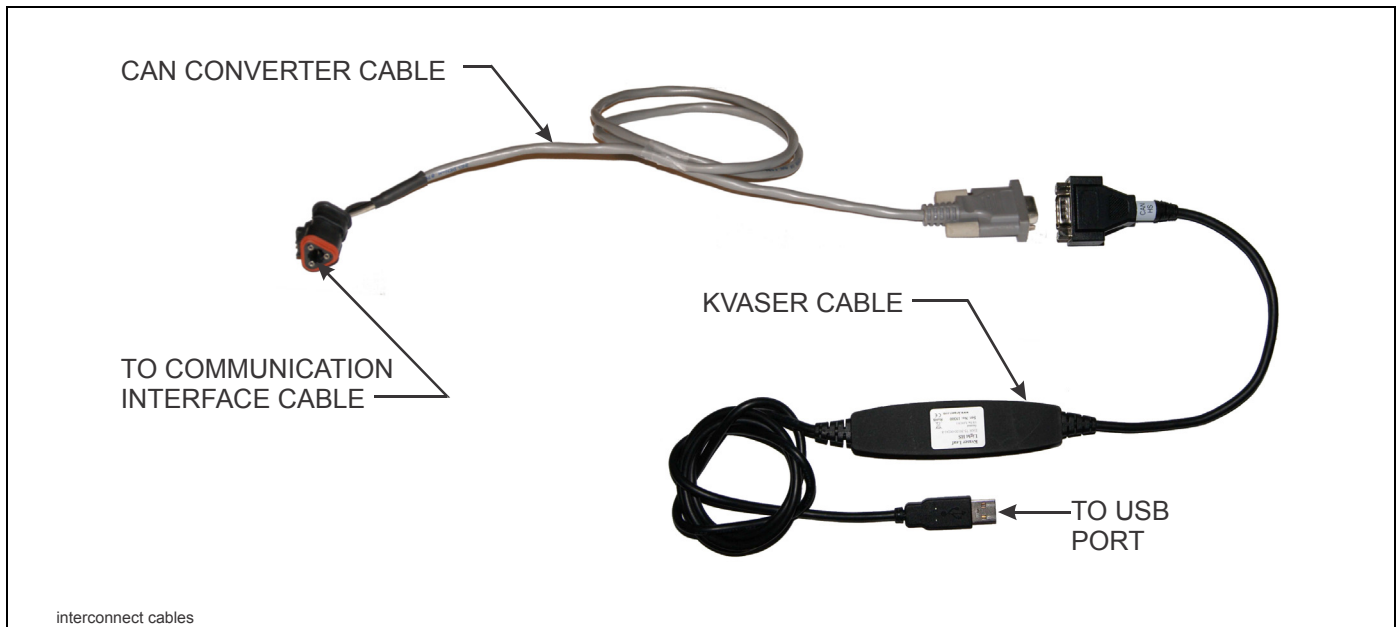

Figure 4-23: Interconnect Cables
5. Attach Kvaser Cable/CAN Converter Cable combination to the available USB port on your computer and to the trailer near the controller (See **Figure 4-23.**)